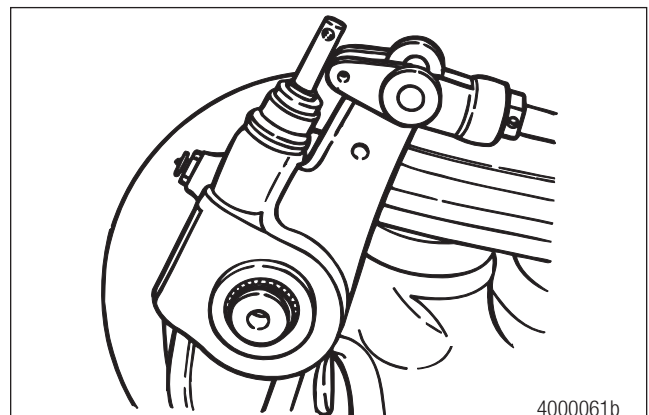

Figure 7.29
2. Install the inner washer onto the camshaft, then install the slack adjuster onto the camshaft. Figure 7.29.